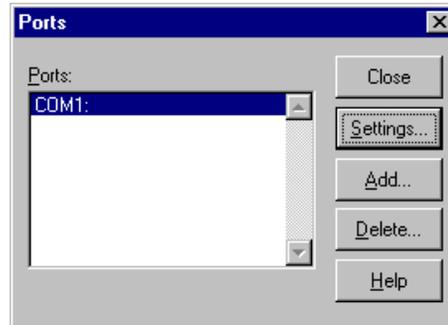

Figure C-3: Ports dialog box
- 2 From the Ports dialog box, select the port, such as COM1 or COM2 (Figure C-3).